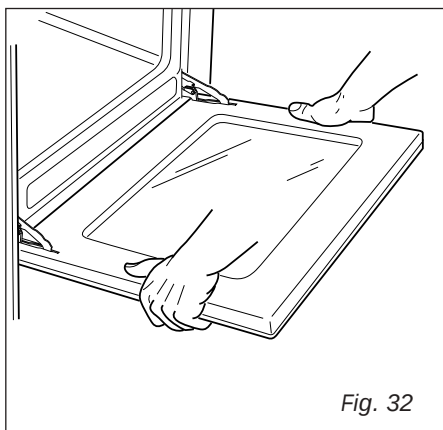

Fig. 32
- Grip the door (as indicated in figure 32) and refit it in reverse order of removing procedure.